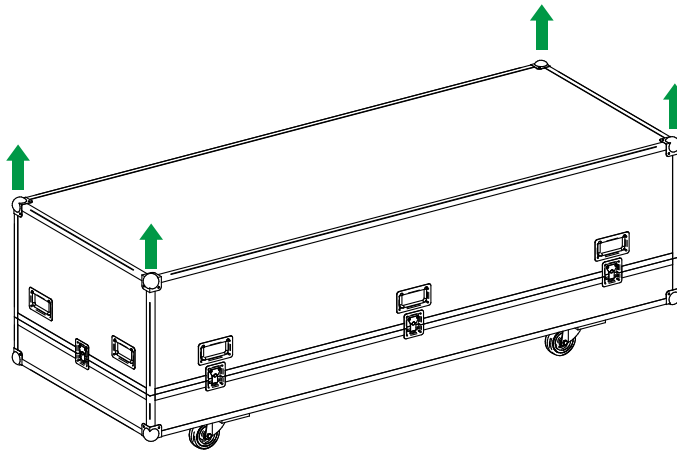

Figure 3-1. Lift the cover
Step 2. Lift the cover from the base plate by grabbing the four heels (Figure 3-1).